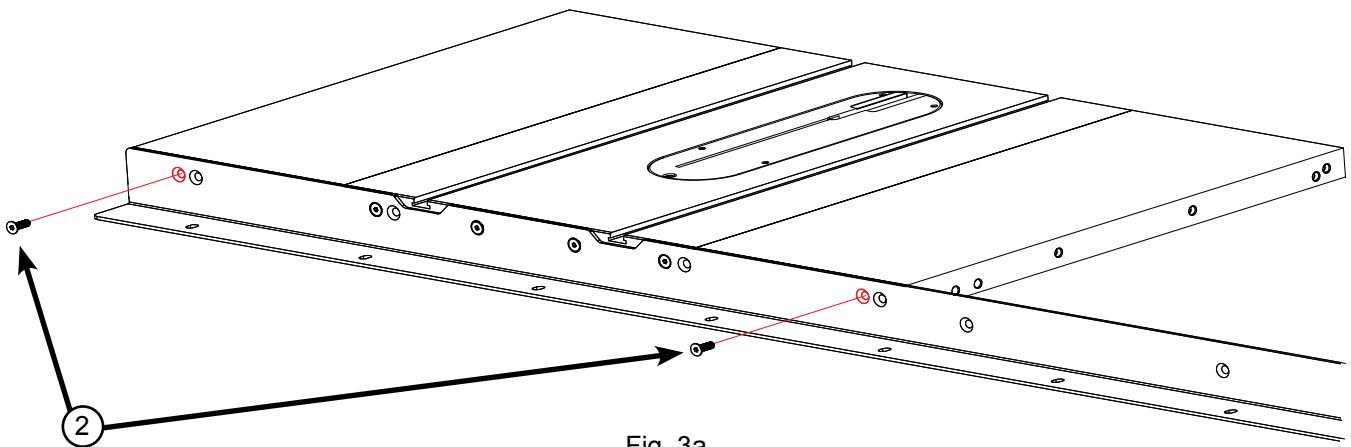
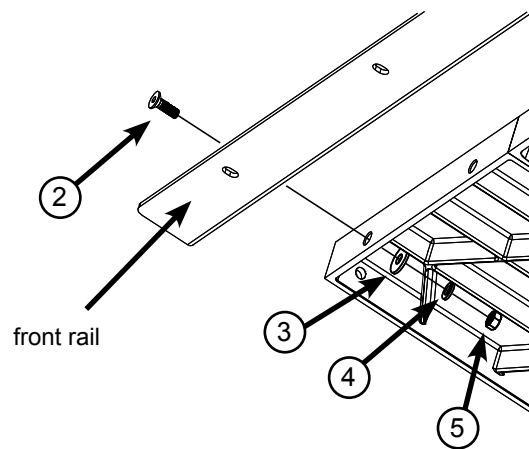

Fig. 3a
Fig. 3b
3. Take two M8 x 25 countersunk socket head bolts and insert one bolt through the corresponding hole in the end of each extension wing (see Fig. 3a). Place an M8 washer, an M8 lock washer, and an M8 hex nut on the threaded end of each of the bolts (see Fig. 3b). Hand tighten the nuts; do not fully tighten them.